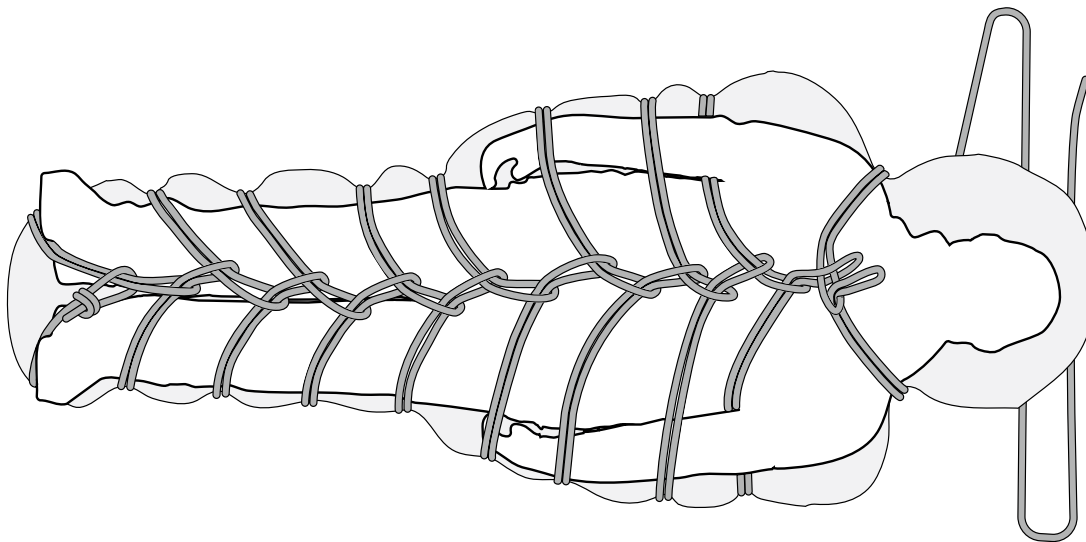

Figure 8-10. Securing the Casualty's Shoulders.
7. From the running end of the rope, bring a bight over the casualty's shoulder and through the last bight formed, as shown in Figure 8-10.